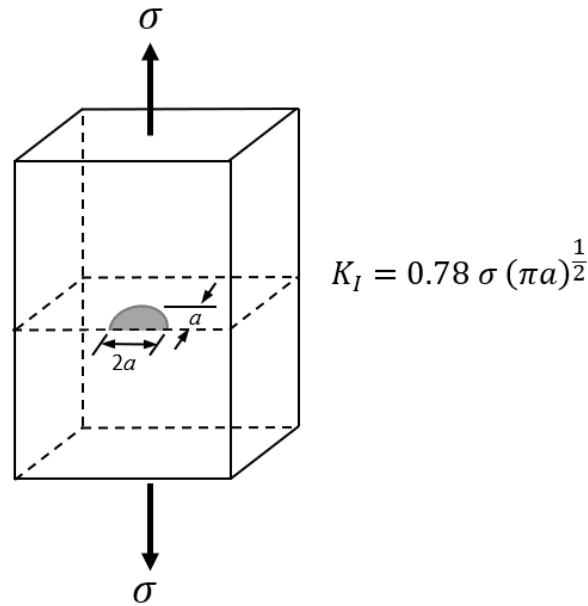

Figure 2
- 2 (a) An aluminium rectangular block with an elliptical surface crack (shown in Figure 2) is subjected to fatigue load with a mean stress of 120 MPa and stress amplitude of 100 MPa. The initial half crack length, $a_0 = 2\text{mm}$. Take $K_{IC} = 80\text{ MPa}\sqrt{\text{m}}$, $C = 1.7 \times 10^{-11}$ and $m = 3.9$. Assume the aspect ratio of the elliptical crack remains constant during crack growth.